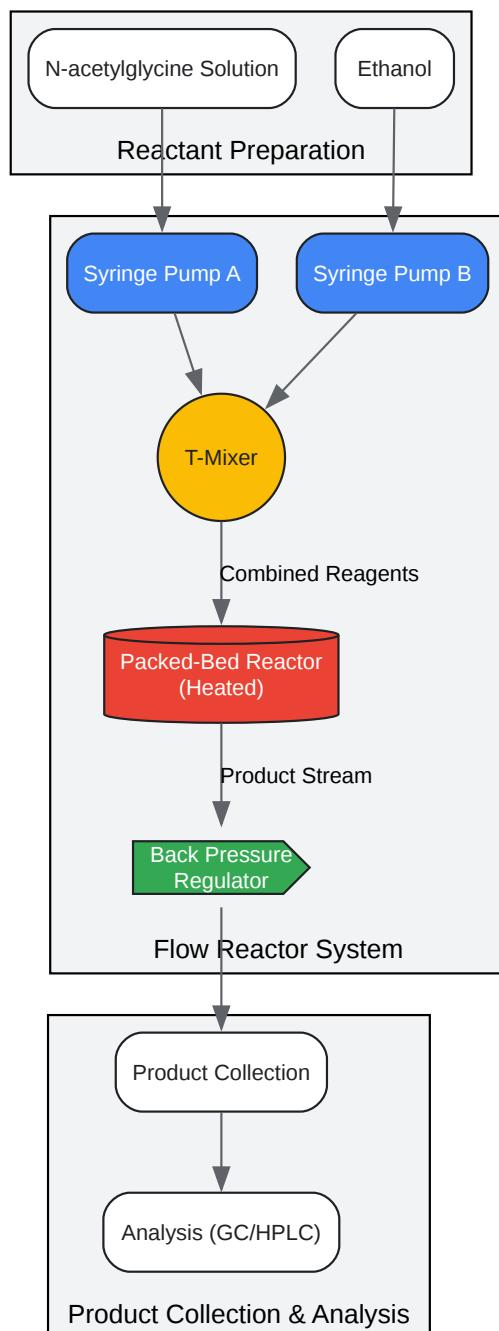

Figure 1: Experimental Workflow for Continuous Flow Synthesis of Ethyl Acetylglycinate
Caption: Figure 1: Experimental Workflow for Continuous Flow Synthesis of **Ethyl AcetylGlycinate**.
- System Setup: The syringe pumps, T-mixer, packed column, column heater, and back pressure regulator were assembled as shown in Figure 1. The system was primed with ethanol.